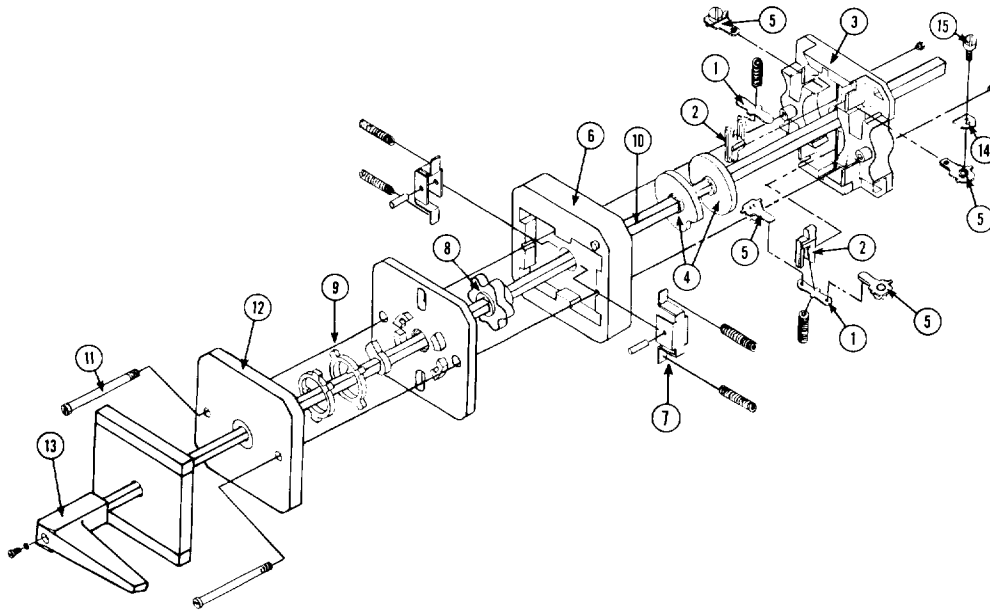

Fig. 2. Exploded view of the miniature instrument and control switch
The switch is a modular design with switching decks(3) stacked with a detent mechanism deck(6), a mounting plate(12), and a handle(13). A steel shaft(10) couples the handle to the operating parts. Two steel securing rods(11) are used to bolt the whole mechanism rigidly together. The basic parts and assemblies are shown on Fig. 2.